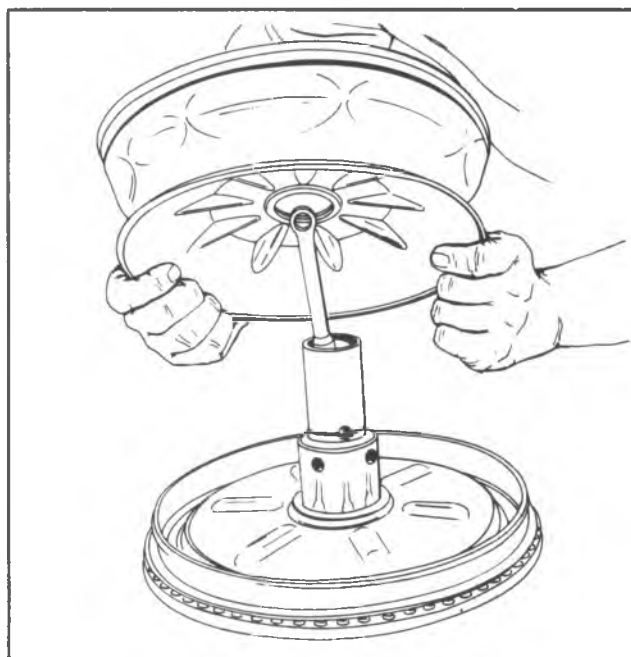

Fig. 5-7A—Installing Primary Support Plate and Diaphragm Assembly
23. Fold the primary diaphragm away from the O.D. of the primary support plate and place the primary support plate and diaphragm assembly over the power piston and push down until it bottoms (fig. 5-7A).